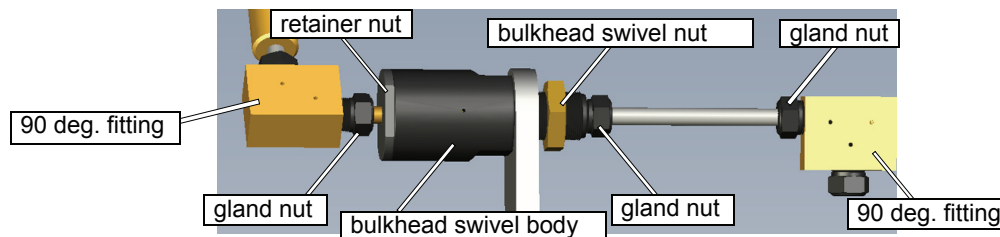

Figure B-2: Typical Bulkhead Swivel Installation
Figure B-2 below illustrates a typical bulkhead swivel installation:
6. When all plumbing has been removed from the swivel ends, place the 1 5/8" open end wrench onto the swivel body and unscrew the bulkhead swivel nut using the 1 3/8" open wrench (Figure B-2).